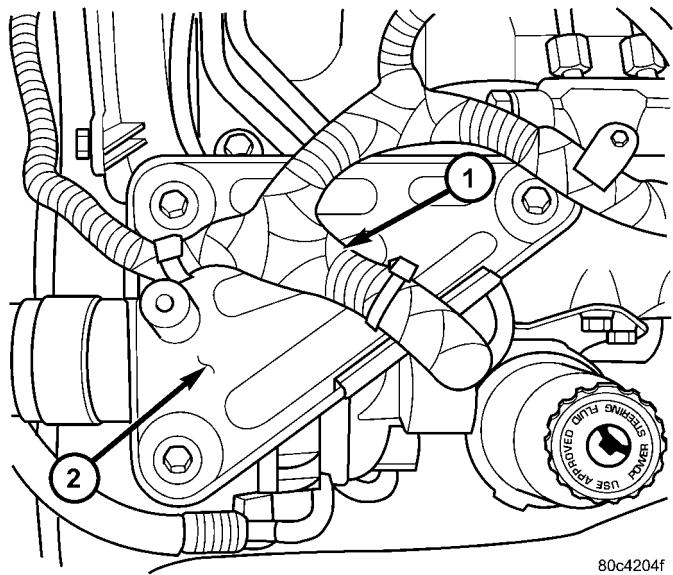

Fig. 6 UPPER SUPPORT BRACKET
(9) Relocate the wiring harness on upper generator bracket (Fig. 6).
- (4) Install the upper support bracket (Fig. 6).
- (5) Install the wiring harness on upper generator bracket (Fig. 6).